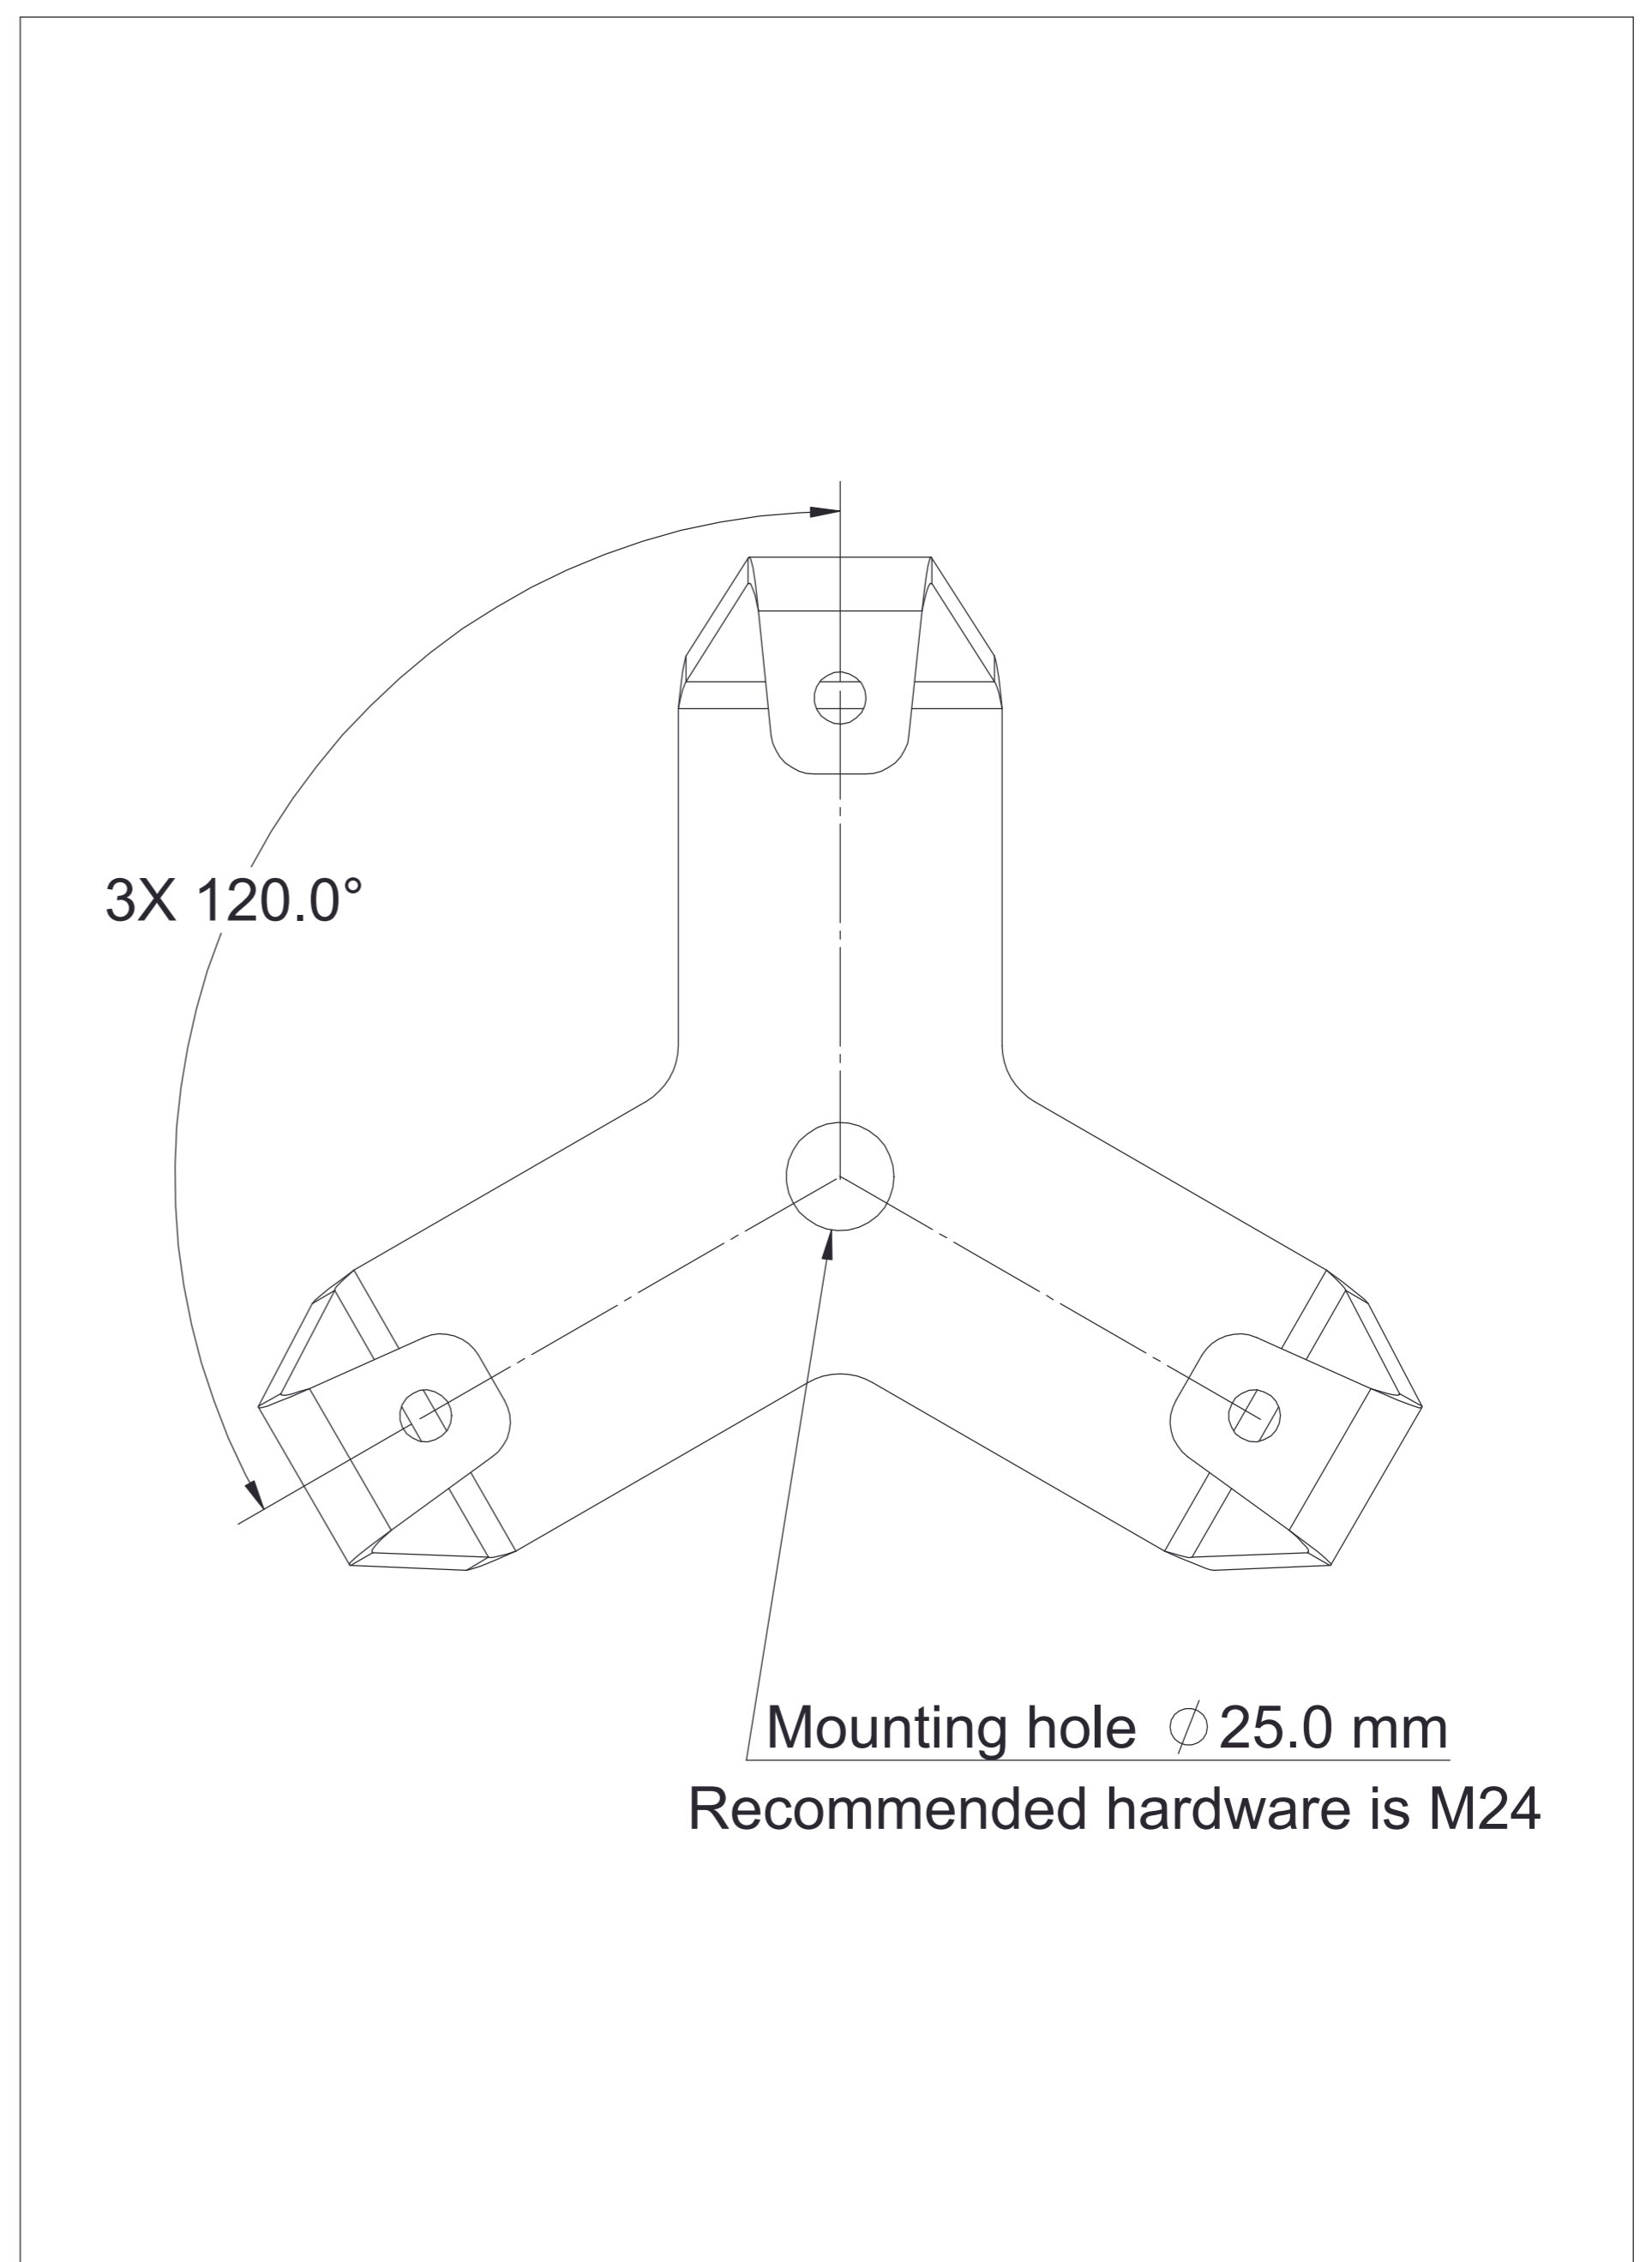

Figure 2. Mounting and Cable Routing Holes on Base.
1. Refer to Figures 2, 3 and 4 for mounting and boresite alignment. It is recommended that the mounting holes be marked and made ready in the mounting surface prior to installing the antenna.